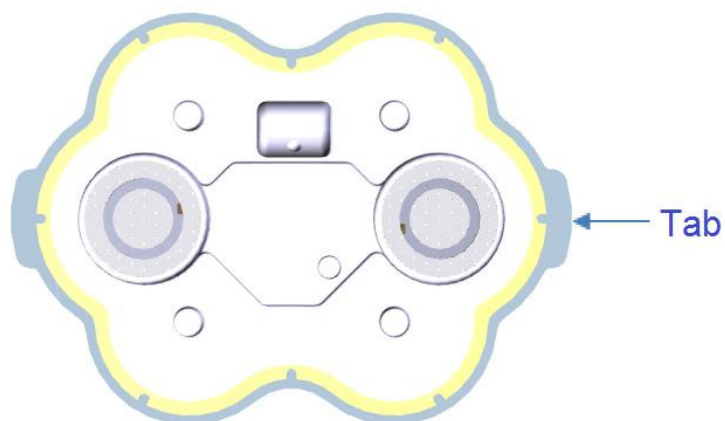

Figure 1: Patch Tab
4. Remove the bottom liner gently by pulling the tab as shown in the Figure 1.